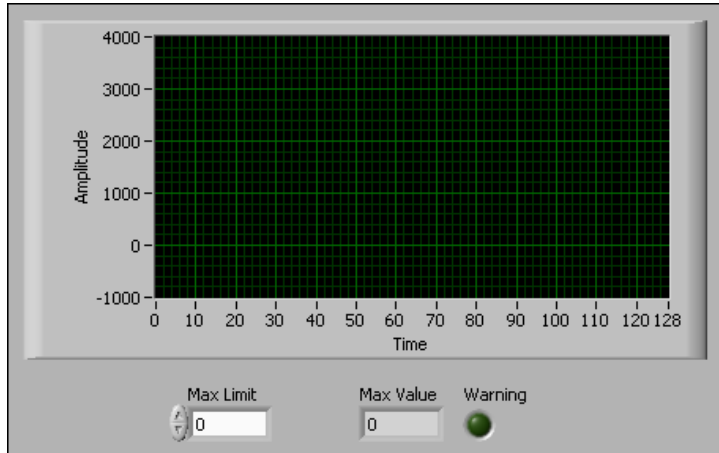

Figure 13. Renaming Controls and Indicators on the Front Panel
- Click the **100** on the x-axis of the waveform graph and enter 128. The front panel window now appears as shown in Figure 13.